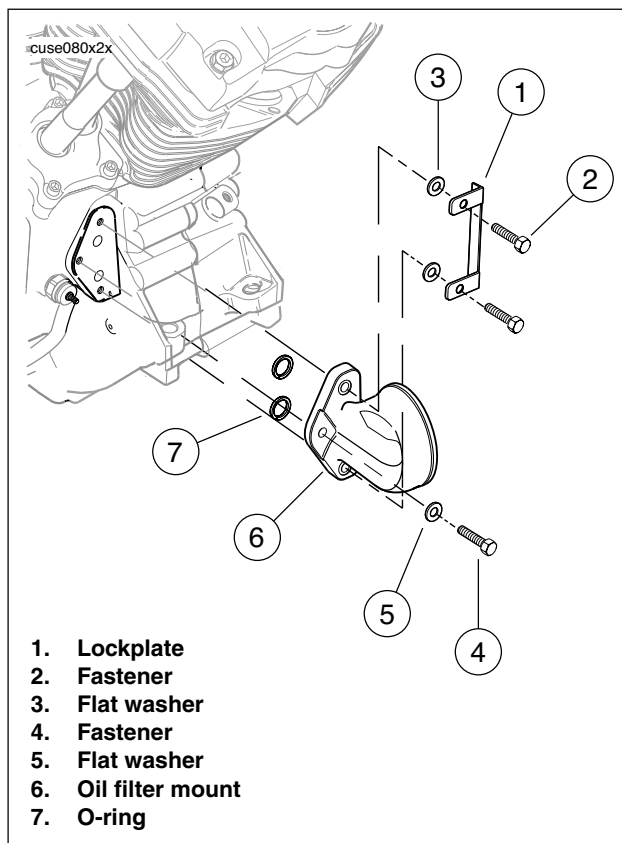

Figure 8. Oil Filter Mount Components
3. See Figure 8. Bend lockplate (1) tabs from bolt heads.
4. Remove oil filter mount lockplate fasteners (2) and washers (3). Discard lockplate.
5. Remove bolt (4) with washer (5) and oil filter mount (6).
6. Remove and discard o-rings (7).